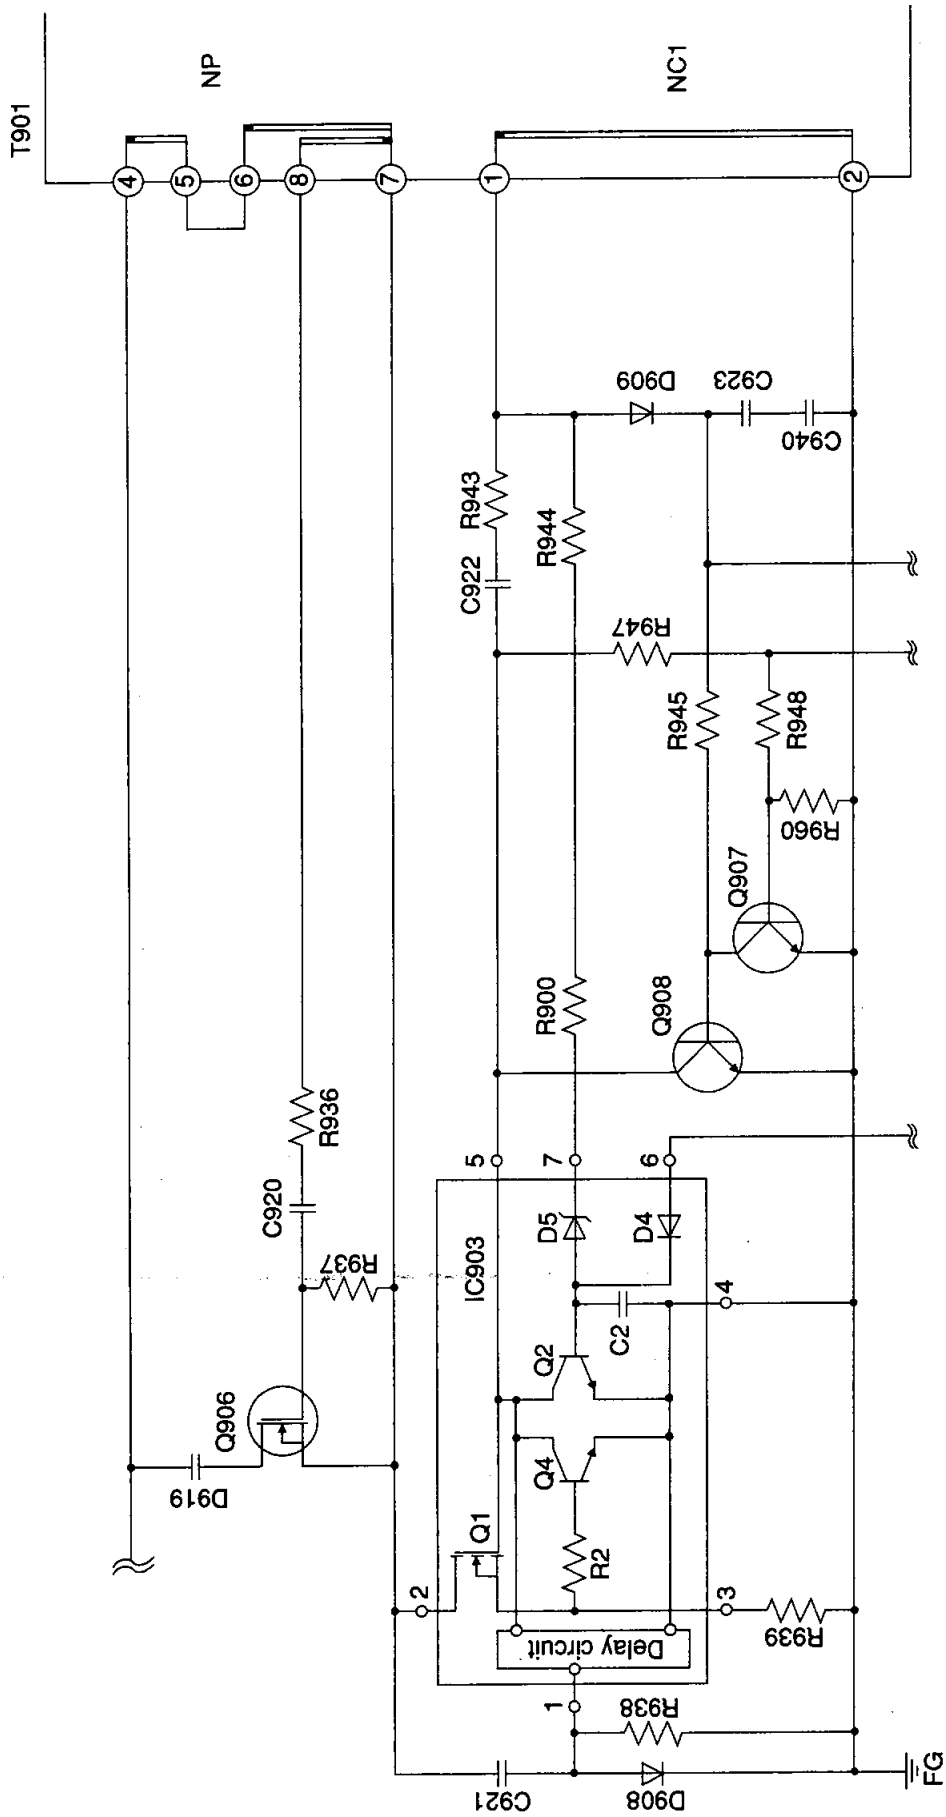

Figure 6. Main power circuit
- (1) The main power uses a pseudo-resonance operation fly-back converter type switching control ICMA5941.
- (2) In Fig. 6, when the sub-power starts and Q910 turns ON, Q908 turns OFF and IC903 starts operation. In other words, when potential is generated across the No. 5 and No. 3 pins and  $V_{TH} = 3V$  (TPY) is achieved, the drain current flows to the main switching terminal Q1, and the input voltage VDC is applied on the Np coil. With this, the voltage calculated with the following expression is generated at the NC1 coil, and the voltage is supplied to the gate terminal (pin No. 5) via R943 and C922.
- (3) Immediately after the power is turned ON, the constant voltage and dropping control are not sufficiently activated, so an excessive current could flow to the Q1 drain. As the Q1 drain current overcurrent protection, the R939 is connected across the source terminal (pin No. 3) and ground terminal (pin No. 4). When the voltage drops, Q4 turns On, the gate voltage VGS drops below  $V_{TH}$ , and Q1 turns OFF.
- (4) From the NC1 coil, voltage is supplied to the gate terminal and C2 is charged via D5. When the C2 potential reaches approx. 1V, Q2 turns ON and the gate voltage VGS drops below  $V_{TH}$ . Thus, Q1 turns OFF. In other words, the Q1 max. ON time is the value determined by the NC1 coil voltage  $V_{CNC1}$ , R900, R944, D5 and C2.
- (5) When Q1 turns OFF, the energy accumulated in the transformer T901 is output from the NS coil to the secondary side via D961. At the same time, the voltage generated in the reverse direction passes through D5, R900 and R944 to discharge C2, and charges the NC1 coil with a minus potential. When the discharge of the transformer energy ends, D961 turns OFF, but a voltage is generated in the NC1 due to the fly-back of the slight residual energy. This turns Q1 ON again, and continues the switching operation.
- (6) Constant voltage control